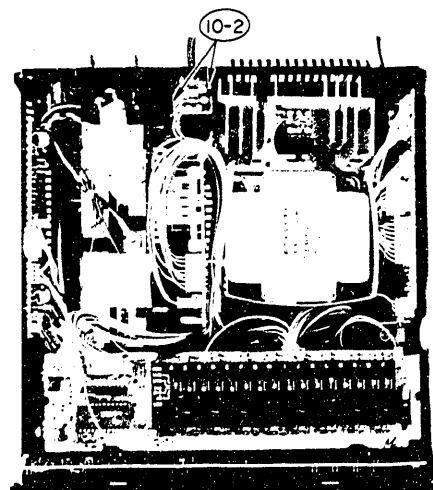

Fig. 31
10. Aux. battery charge jack PC Board (Fig. 31)